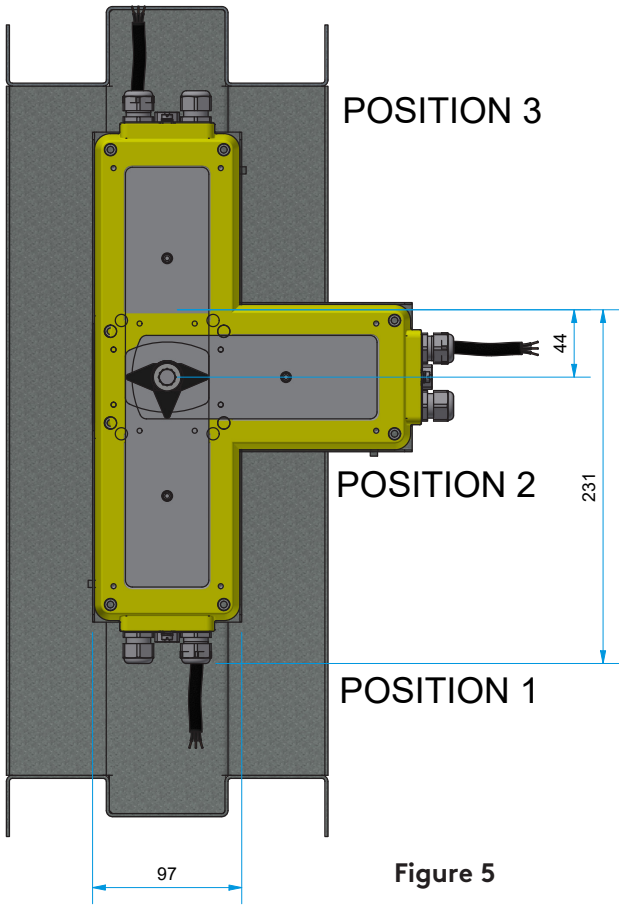

Figure 5
11. Control Modes (3 positions) (Refer to figure 5)